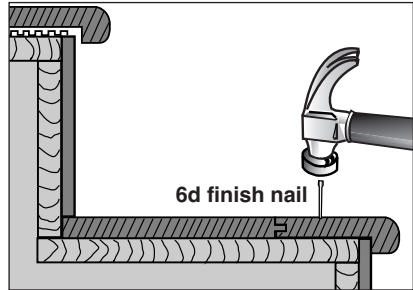

Fig. 37
7. Apply a bead of construction adhesive in a 3" (7.6 cm) serpentine pattern to the back of the cut piece of stair nose and affix to the stair. (On wood subfloors, drill appropriate size holes into the installed stair nose and anchor with 6d finish nails (Fig. 37). Set nails using a nail punch. Fill holes with a repair stick.)